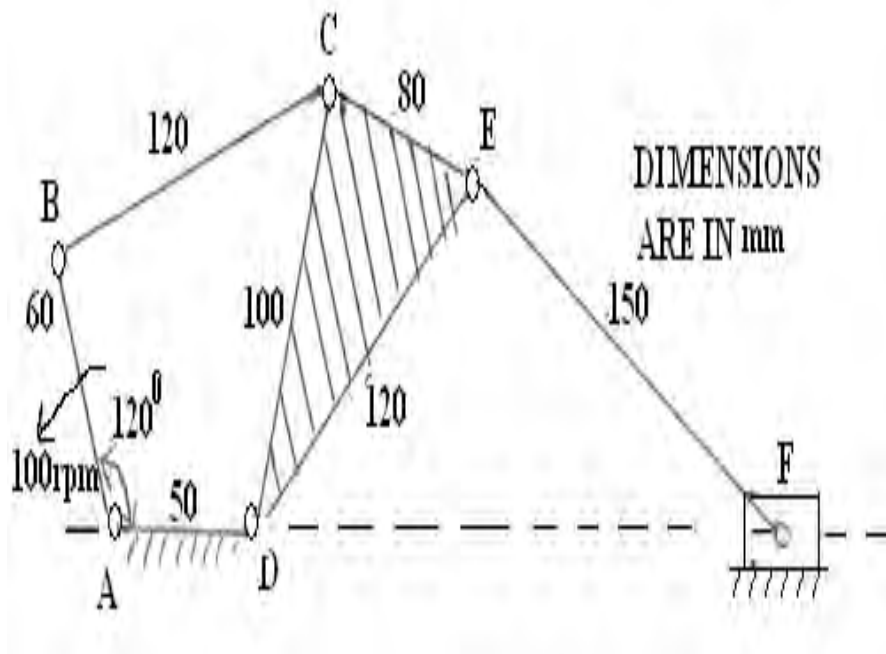

Figure 2
- Find the velocities of points B, C, and D of the double-slider mechanism shown in the figure 2 if crank 2 rotates at 42 rad/s cw. Use instant centre method. [16]